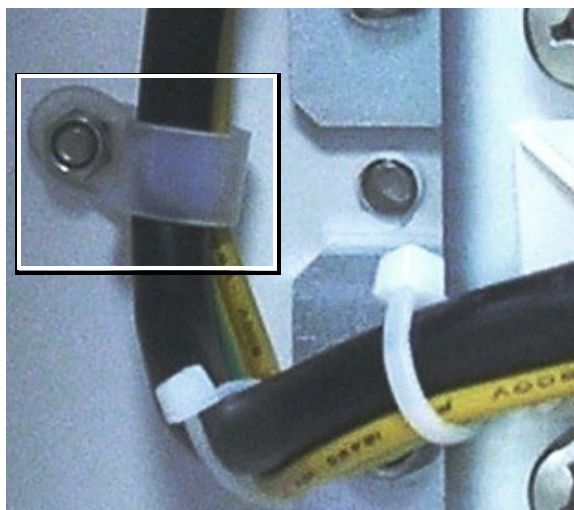

Figure 8-89 Correct Installation of Cable Clamp
- 4.) Secure the cable with the cable clamp in the direction shown in Figure 8-89.